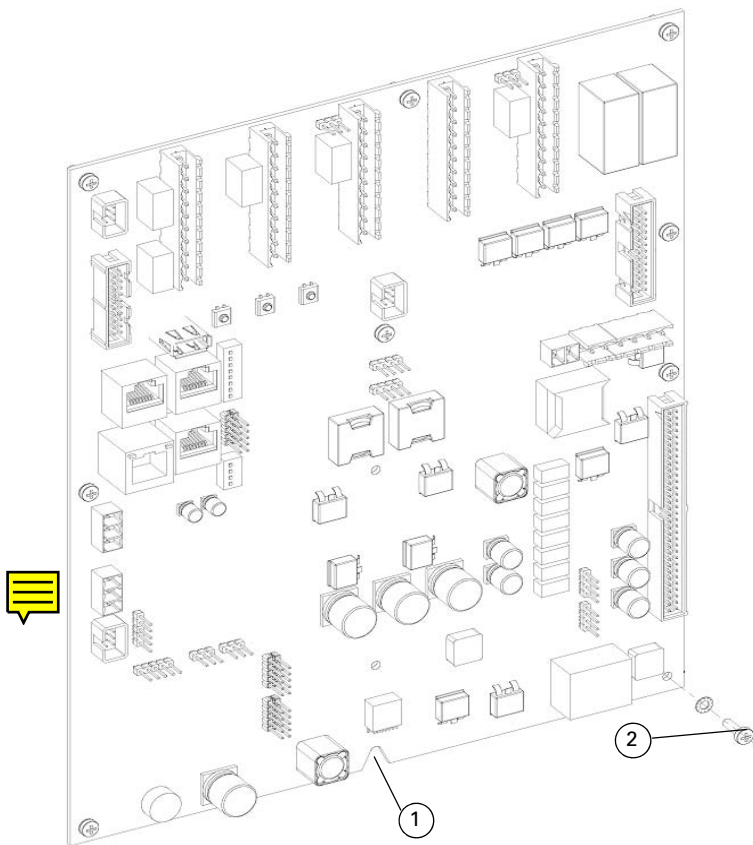

Fig. 1: FC-FI Field Interface Board
- 5 To mount the new FC-FI board, fit the groove at the base of the board (Item 1 in Fig. 1) into the metal dowel located at the back wall of the panel housing.